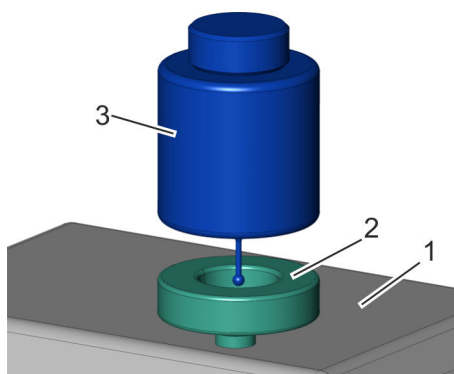

Fig. 67: Placing the calibration ring (example)
1. ➔ Check the calibration ring (Fig. 67/2) for damage and dirt.
2. ➔ Place the calibration ring (Fig. 67/2) on a magnetic surface (Fig. 67/1) inside the work area.
5. ➔ Position the measuring ball of the infrared workpiece sensor (Fig. 67/3) manually with the axis control keys or the hand wheel in X, Y and Z direction roughly over the centre of the calibration ring (Fig. 67/2).